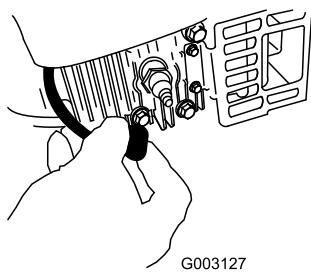

Figure 41
- Disconnect the spark plug wire from the spark plug (Figure 41) before performing any maintenance procedure.